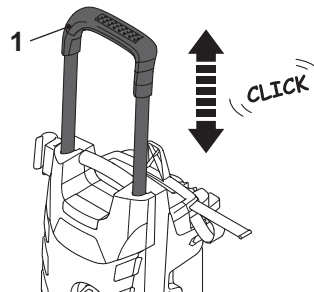

Fig. 19
- > Move the transportation handle (1) to required position (high/low position) (Fig. 19).